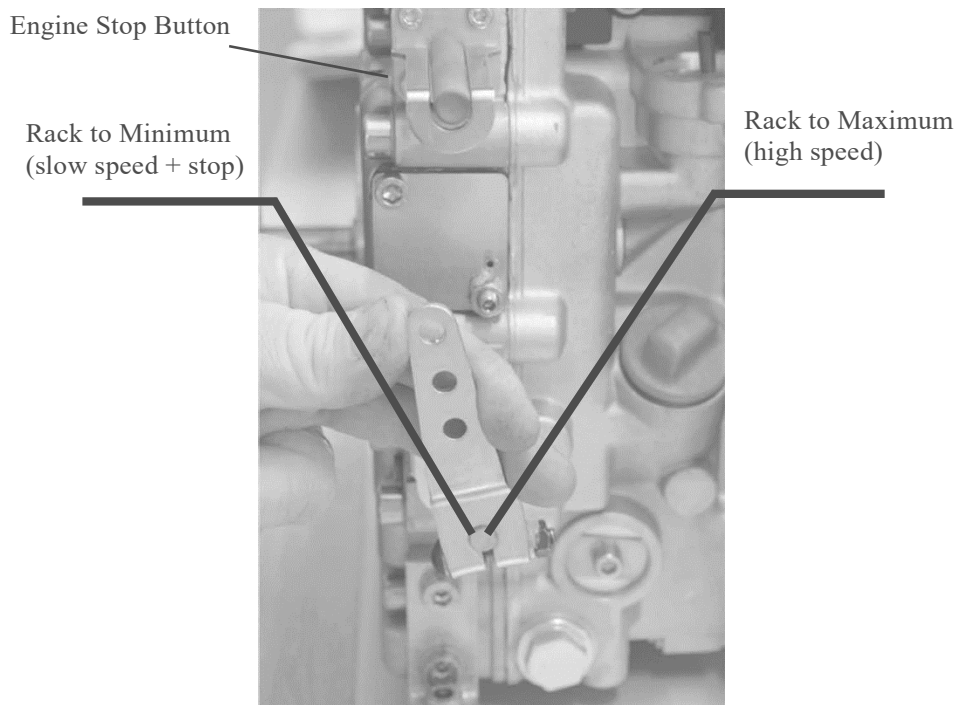

Figure 11. Rack Adjustment and Engine Stop Button
4. Adjust the engine rack (speed control) to half-way (see Figure 11).
1. Press the engine stop button (see Figure 11).